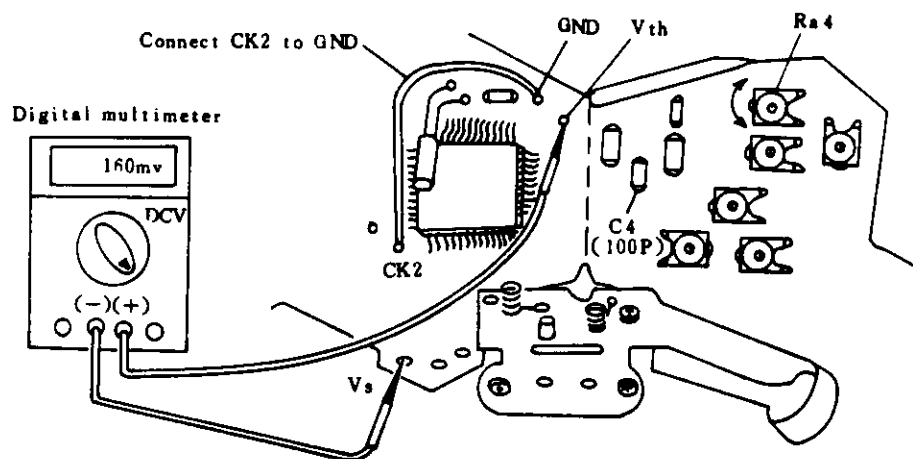

Fig 53
- ① Connect CK2 to GND as shown in (Fig 53).
- ② Set the position of ISO100.
- ③ Connect (+) of digital multimeter to V_{th} , (-) of digital multimeter to V_s , and then read the voltage. See (Fig 53).